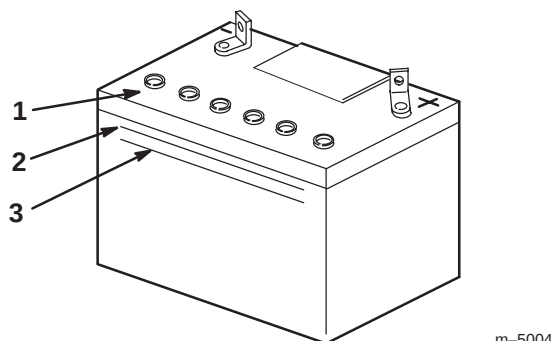

Figure 52
2. Look at the side of the battery. The electrolyte must be up to the **upper** line (Fig. 52). Do not allow the electrolyte to get below the **lower** line (Fig. 52).
3. Remove the vent caps from the battery (Fig. 52).
4. Slowly pour distilled water into each battery cell until the level is up to the **upper** line (Fig. 52) on the battery case.
5. Wait five to ten minutes after filling the battery cells. Add distilled water, if necessary, until the electrolyte level is up to the **upper** line (Fig. 52) on the battery case.